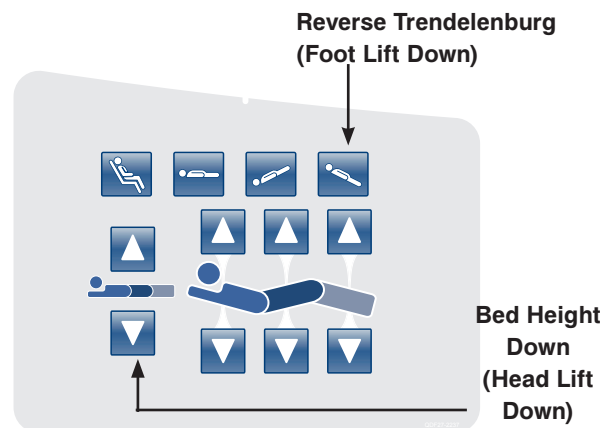

Figure 7: HE Siderail Control Panel - (Right Side Shown)
5. Lower the bed to the lowest position. Press the **Bed Height Down (Head Lift Down)** and **Reverse Trendelenburg (Foot Lift Down)** buttons simultaneously as shown in Figure 7.